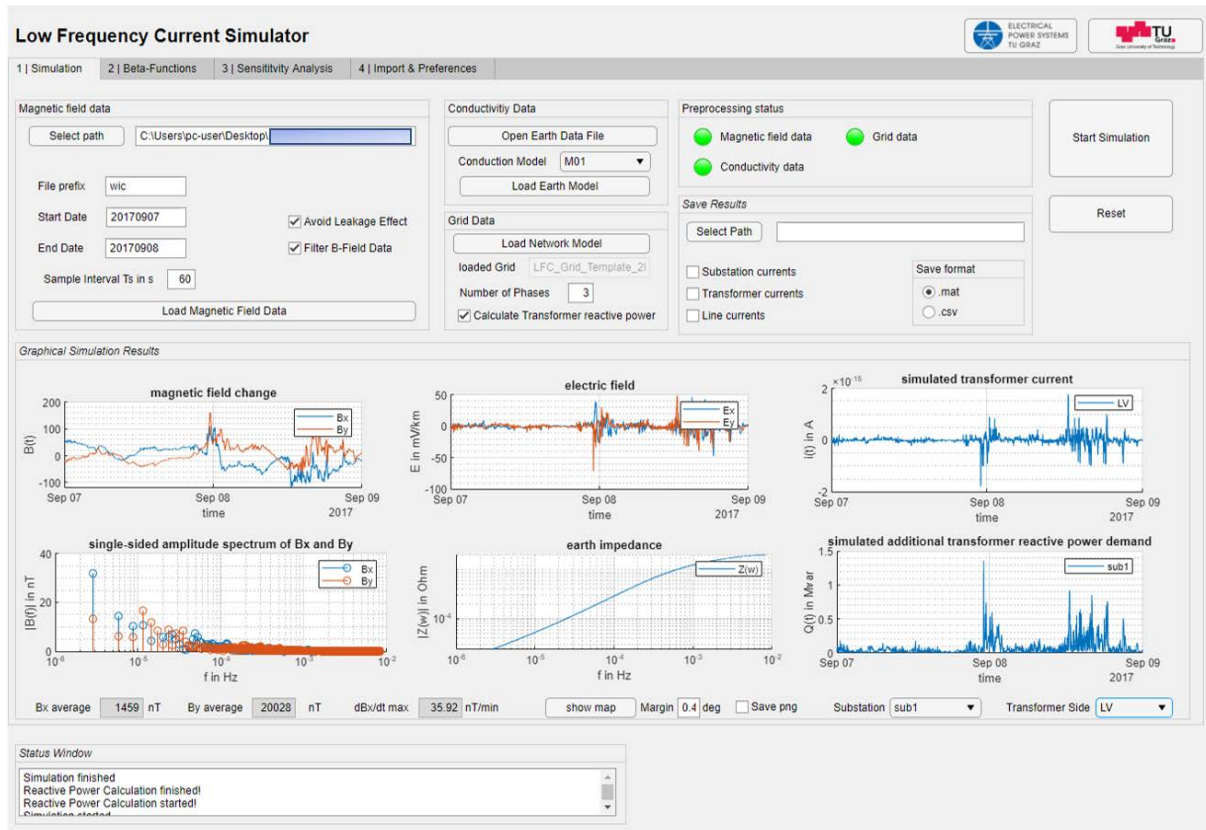

Figure 9: Simulation results
6. Press *Start Simulation* to start the simulation process. After a successful simulation, the results are shown in the GUI as depicted in Figure 9 and the results are saved (e.g. *LFC_Grid_Template_2Nodes_LineCurrents.mat*). On the bottom right corner, it is possible to switch between substations and transformer voltage levels.